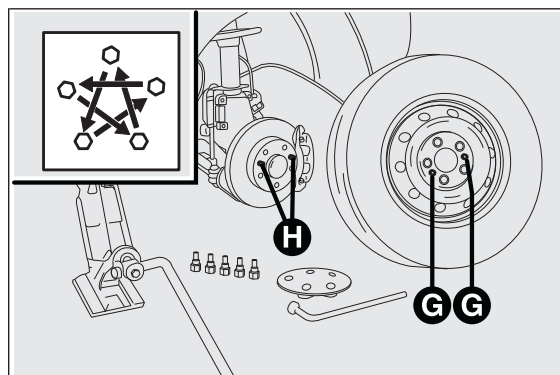

fig. 176
- ☐ fit the spare wheel, aligning holes G fig. 176 with the pins H. When fitting the spare wheel, ensure that the wheel support surfaces are clean and free of impurities that could subsequently cause the bolts to loosen;
- ☐ fully tighten the bolts, passing alternately from one bolt to the one diametrically opposite, following the order illustrated in fig. 176.